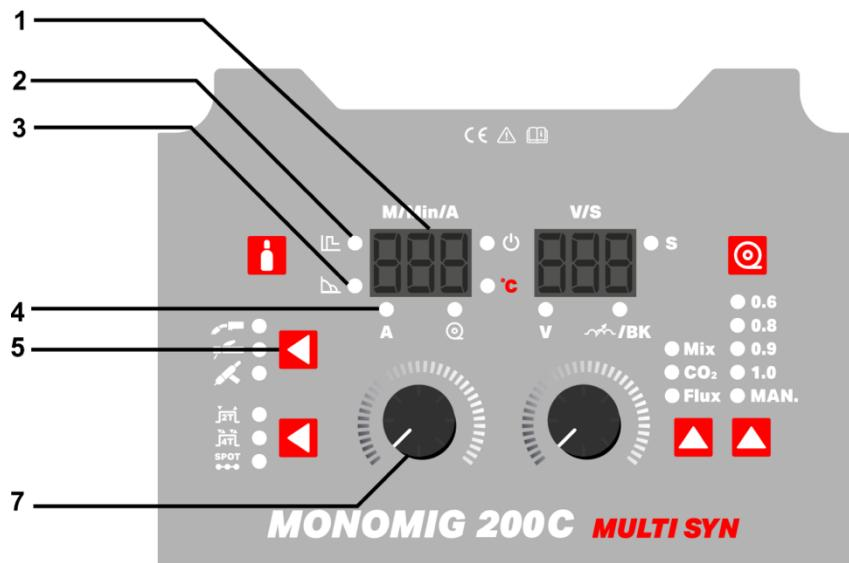

Fig.7
- Select MMA welding (coated electrode), pressing button 5 (Fig.7) until led MMA lits.
- Adjust the welding current through knob 7 (Fig.7). Led 4 (Fig.7) lits and the desired current is showed in display 1 (Fig.7) During welding, this parameter is continuously active (by turning knob 7 (Fig. 6), the welding current is regulated).
- Select Hot Start by pressing knob 7 (Fig.7) until led 2 (Fig.7) lits. Adjust Hot Start - To improve the arc ignition, adjust from 0 - 10 by turning knob 7 (Fig.7).
- Select Arc Force by pressing knob 7 (Fig.7) until led 3 (Fig.7) lits. Adjust Arc Force - To avoid the electrode sticking to the workpiece during welding, from 0 – 10, by turning knob 7 (Fig.7).